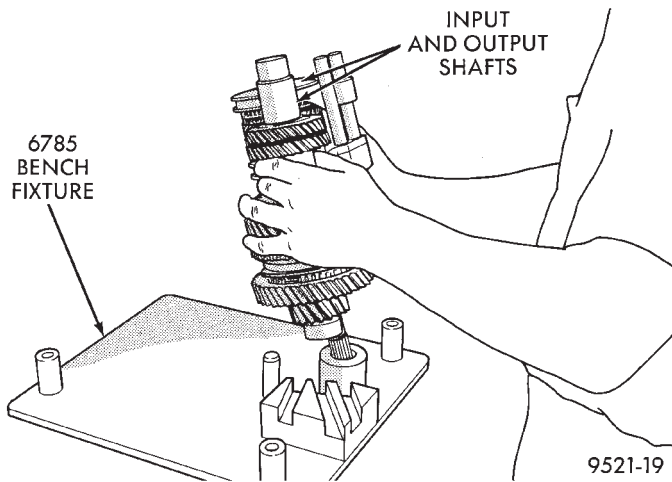

Fig. 65 Gear Train Removal
(21) Remove input and output shaft assemblies from bench fixture (Fig. 65).